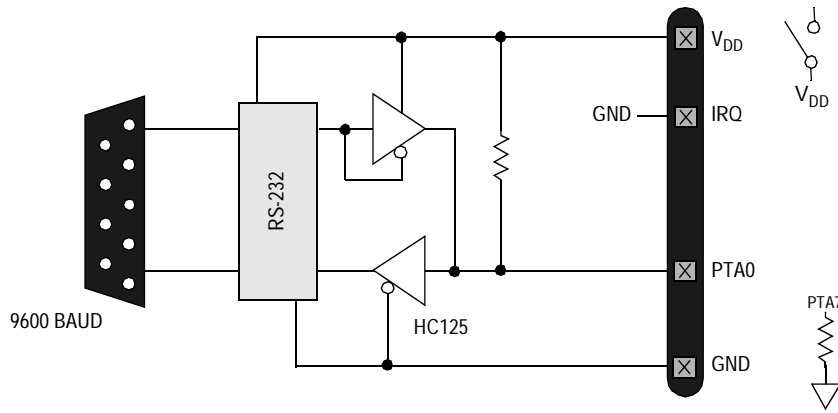

Figure 7. MC68HC908GP32 Forced Monitor Mode (32.768 kHz)
- c. The external communications circuit. Also needed is a 5-volt power source to power this circuit (see Figure 5, Figure 6, and Figure 7).
- b. Blank part with a 32.768-kHz oscillator. See Figure 7.